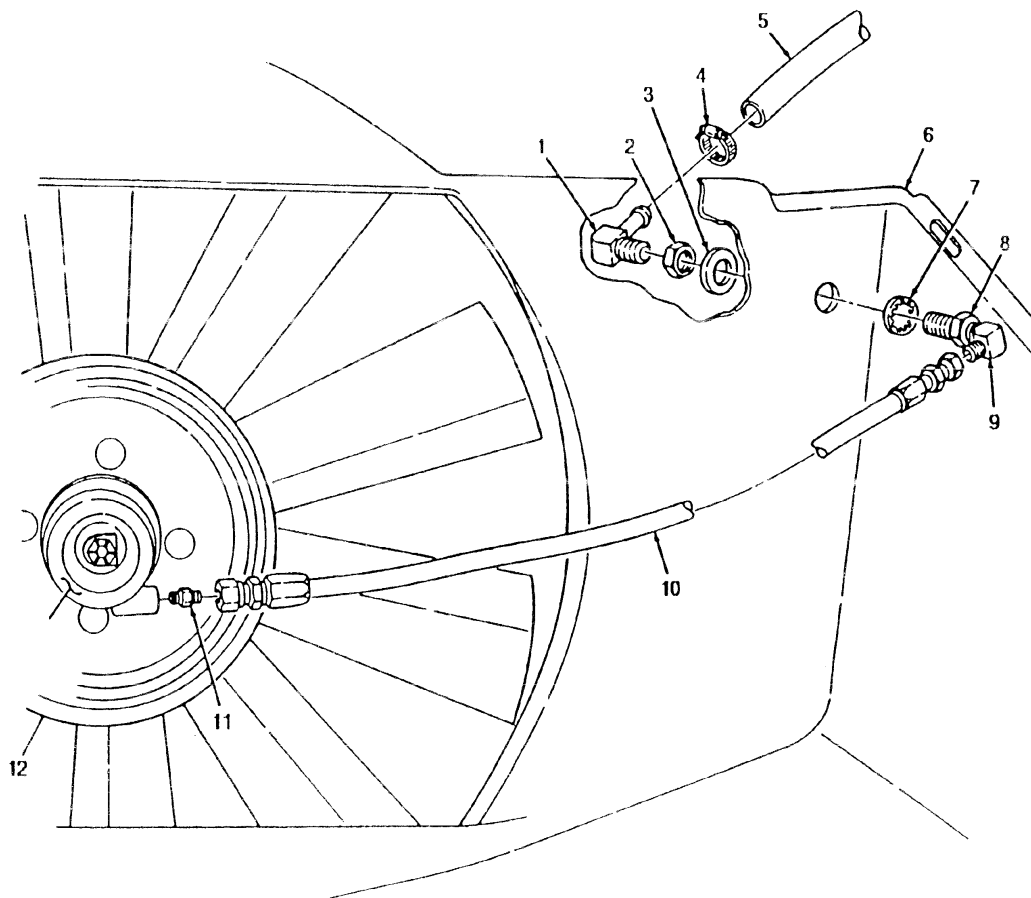

FIGURE 3-14
2. Loosen clamp (4) on hydraulic hose (5) and disconnect hose (5) from elbow fitting (1). (see figure 3-14)
3. Disconnect fan drive hydraulic hose (10) from fitting (11).
4. Remove elbow fitting (1) from adapter bushing (8).
5. Remove nut (2), washer (3), and washer (7) securing adapter bushing (8) to fan shroud (6).
6. Remove fan drive hydraulic hose (10) from elbow fitting (9).
7. Remove fitting (11) from fan drive (12).